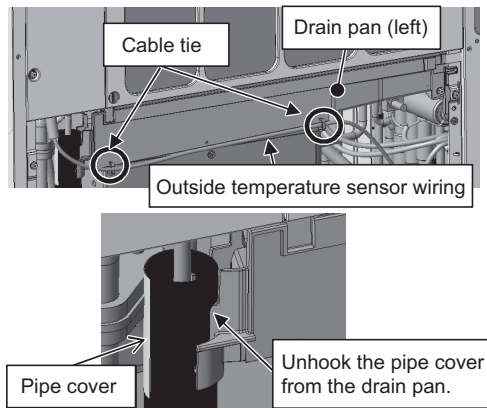

Figure 3
- (2) Remove the external temperature sensor wiring from the left drain pan by cutting the two cable ties. (See Figure 3.)
Unhook the pipe cover from the left drain pan. (See Figure 3.)